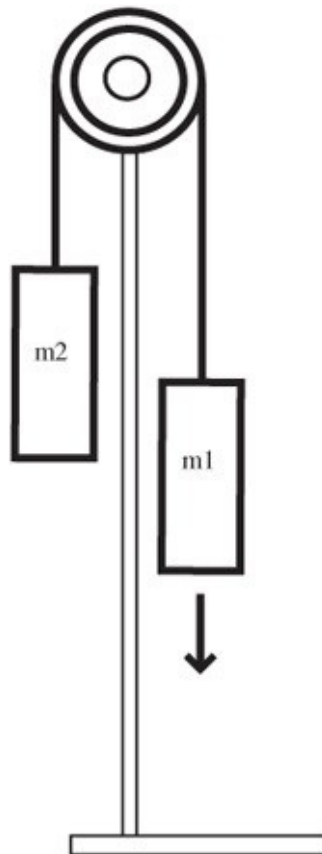

Figure 31-1 *Atwood's machine.*
1. Set up the apparatus with each of two masses attached to string and suspended over a pulley, as shown in Figure 31-1.